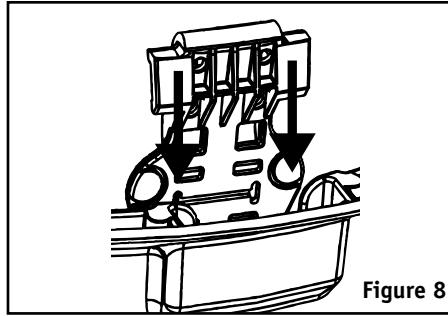

Figure 8
3. Insert keys into respective key slots. Push firmly until keys snap into place. (Figure 8)